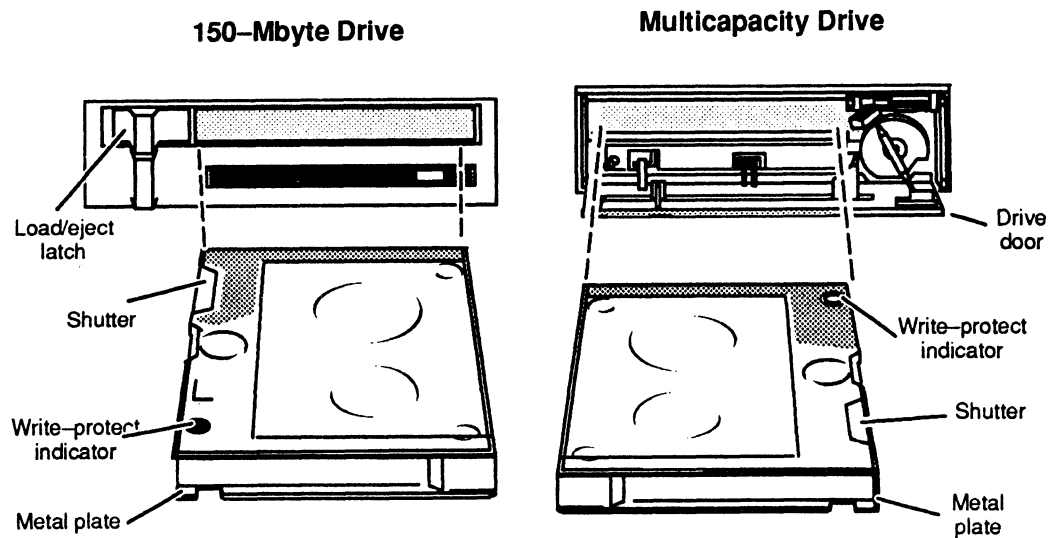

Figure 2-1 Inserting QIC Tape
3. Insert the cartridge tape into the tape drive. Orient the cartridge tape to the tape drive opening as shown in Figure 2-1.
NOTE: Figure 2-1 shows tape drives mounted horizontally, such as those in a Peripheral Housing Unit (PHU). Even with a drive mounted vertically, the metal plate (on the bottom of the tape) aligns with the bottom edge of the drive.